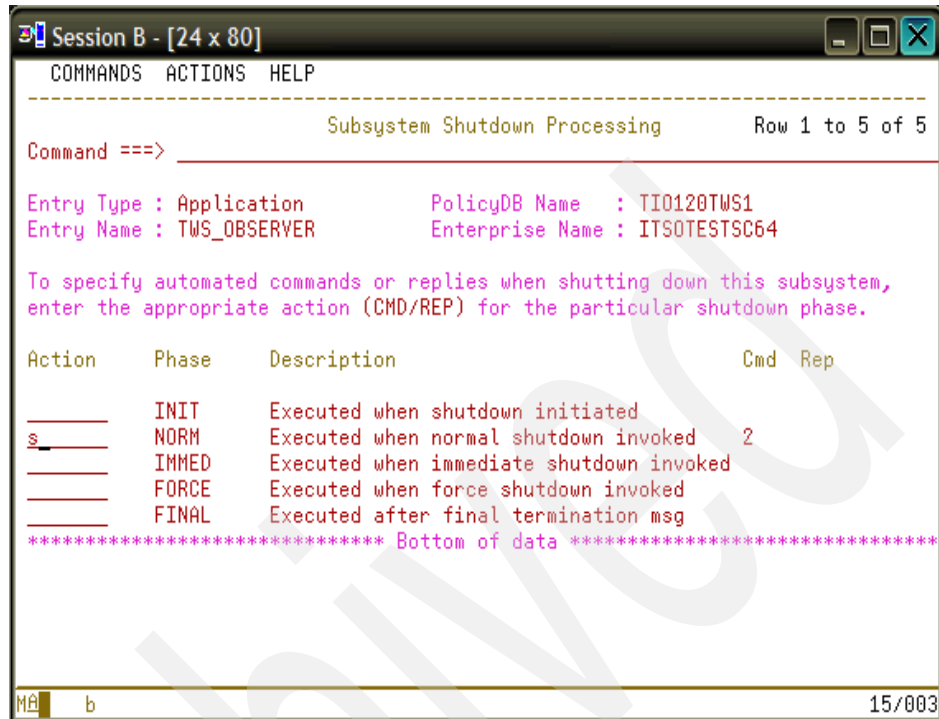

Figure 4-46 Subsystem Shutdown Processing panel for z/OS status observer
9. Place an s in the Action column next to SHUTDOWN on the Policy Selection panel. The Subsystem Shutdown Processing panel that is shown in Figure 4-46 on page 152 displays.